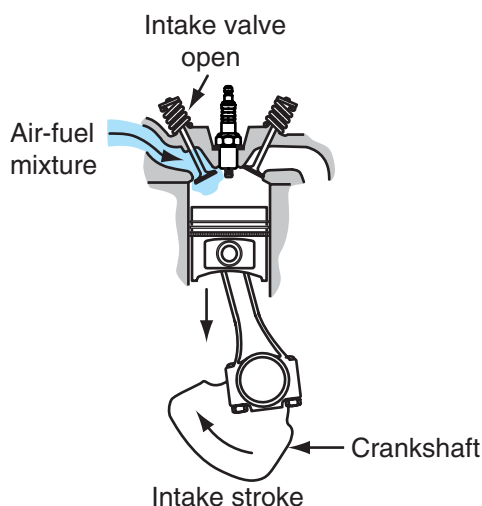

FIGURE 1.6 The air-fuel mixture is drawn into the cylinder.
- **Intake Stroke.** Gasoline will not burn unless it is mixed with the correct amount of air. It is very explosive when 1 part is mixed with about 15 parts of air. Shortly before the piston reaches TDC, the intake valve begins to open. As the crankshaft turns, it pulls the rod and piston down in the cylinder toward BDC (**Figure 1.6**).